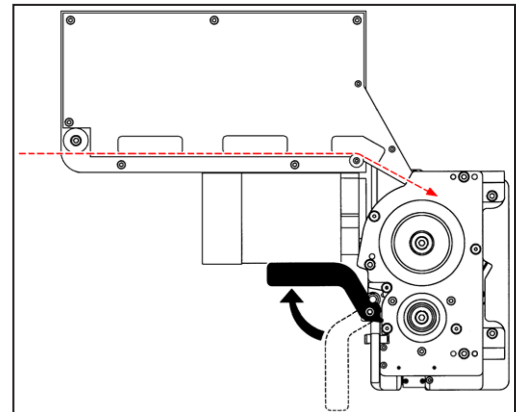

Figure 3-3: Strap Loading
1. Open the access door of the machine. Insert strap (**Figure 3-3: 1**) (with the natural curl facing up) into the rear of the accumulator box under the eccentric wheel (**Figure 3-3: 2**). Using any of the three access openings, guide the strap to the front of the accumulator box.